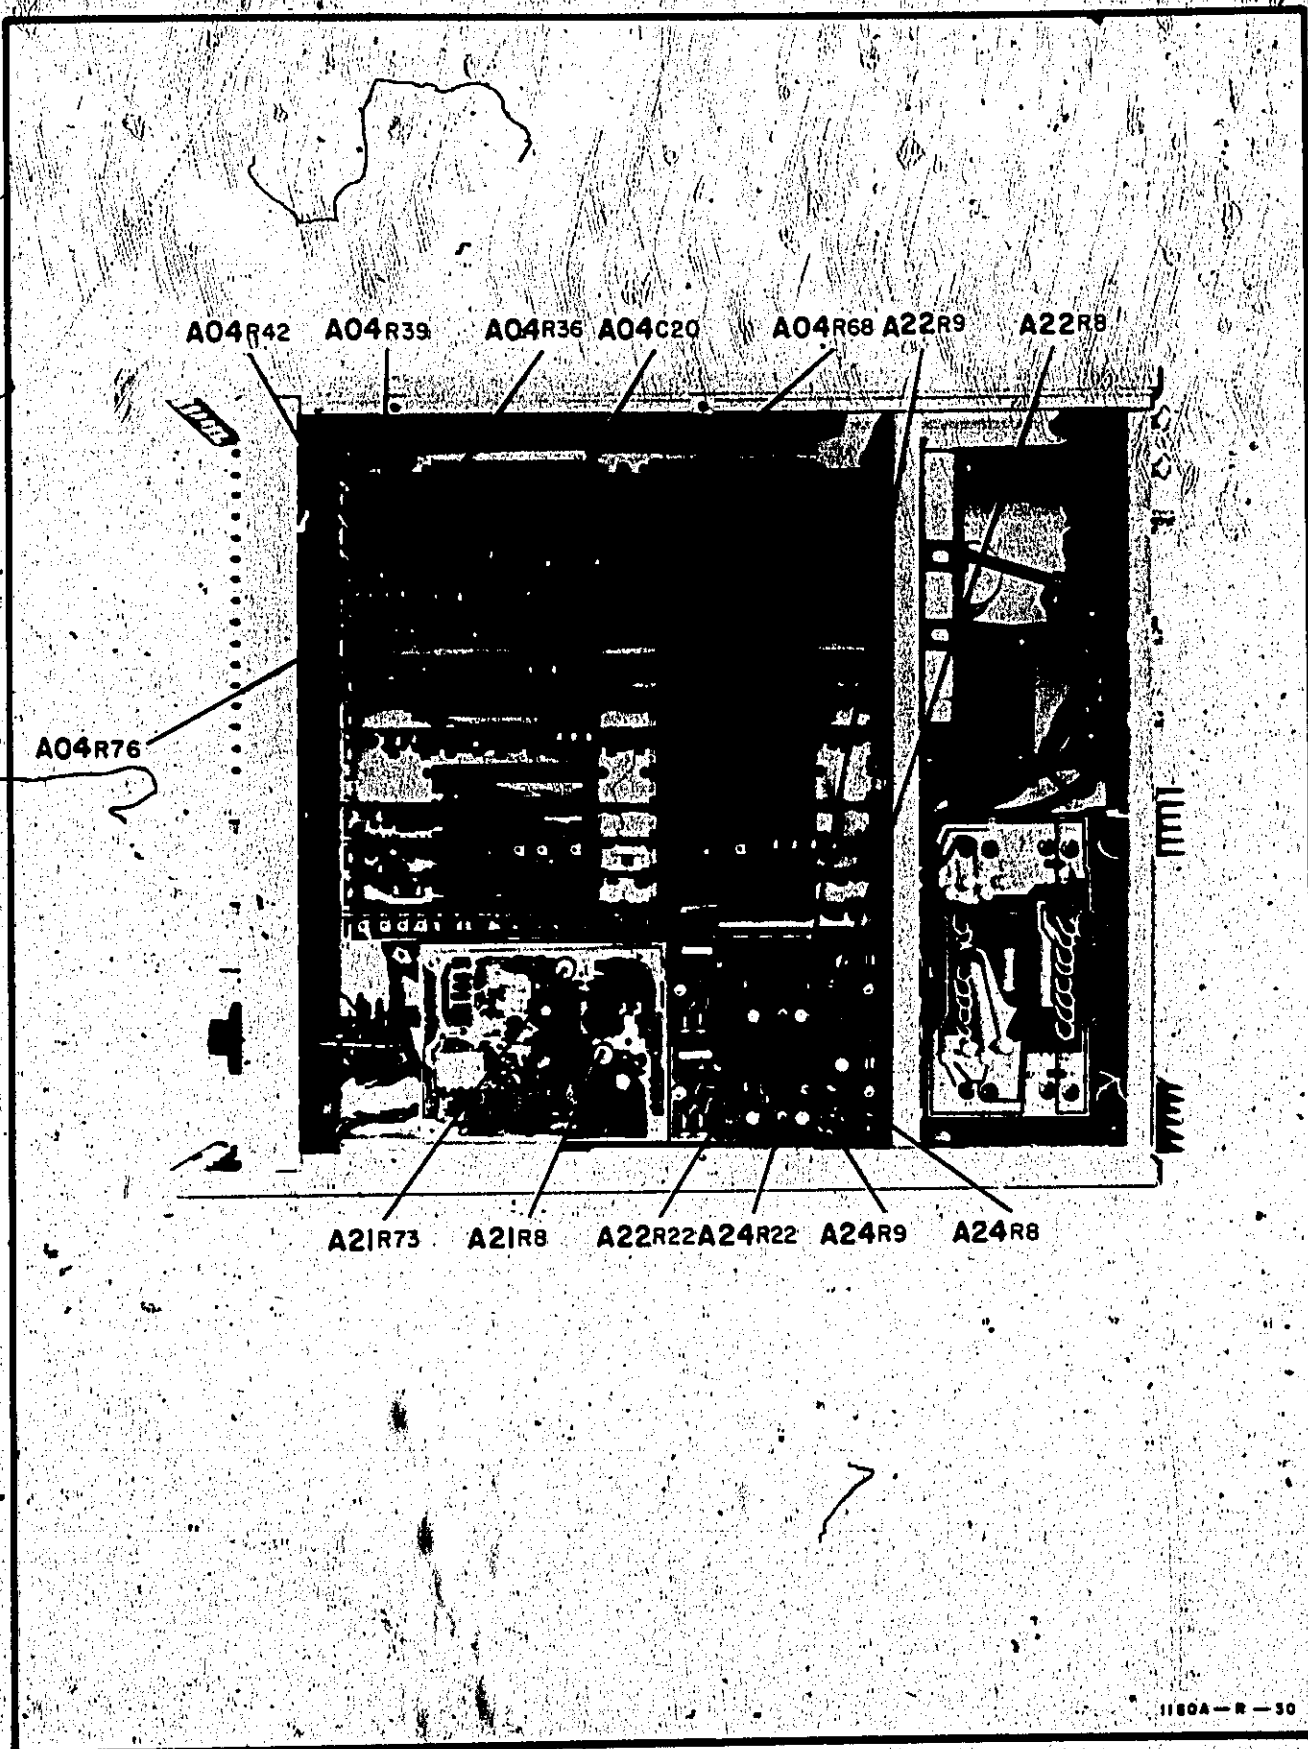

Figure 5-3. Adjustment Location, Assemblies A04, A21, A22, and A24
f. Adjust A21R73 (figure 5-3) for exactly 1 cycle per division.
- k. Adjust Channel 1 TR (A22R8) for 340-picosecond risetime (figure 5-3).